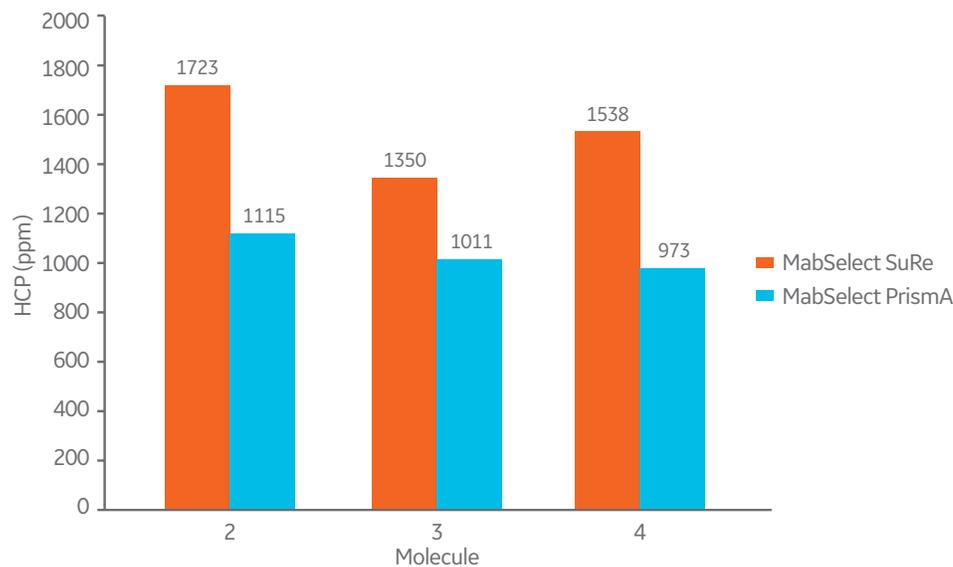

Fig 4. HCP reduction content in samples with different Fc-based antibody constructs using either MabSelect PrismaA or MabSelect SuRe resin.
Our inhouse data has also been confirmed in several customer evaluations (1). However, elution pH and elution pools should always be evaluated for the specific target molecule to be purified at relevant load. The significantly higher load for MabSelect PrismaA compared with MabSelect SuRe resin can in some cases result in a higher elution pH for molecules as seen in Figure 3. In the same case study, lower host cell protein (HCP) concentration was observed in eluate with the higher elution pH (Fig 4).